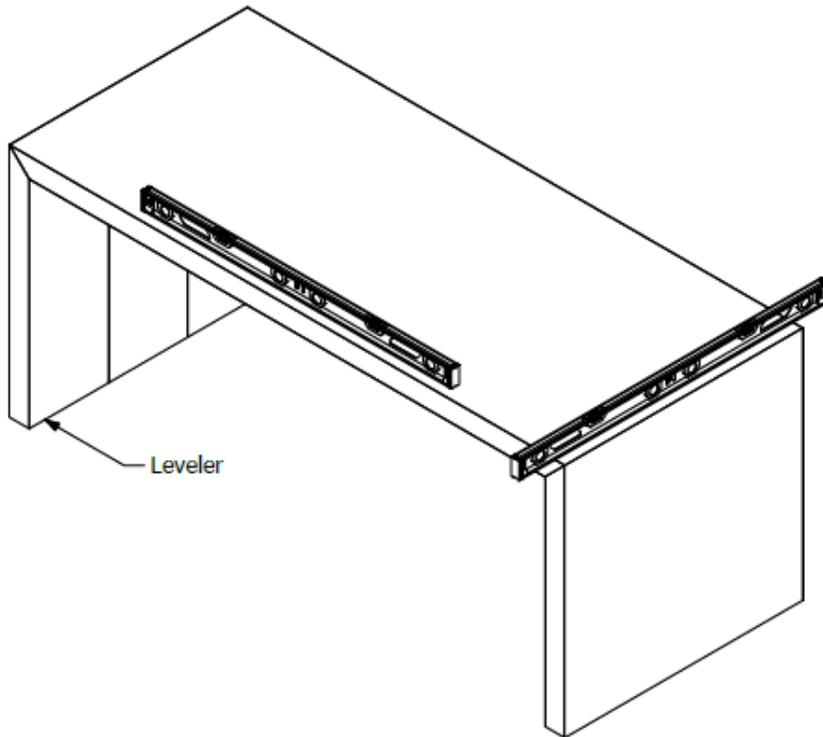

Fig. 01: Table Leveling
1.1.1 Once properly positioned, use a level to measure and adjust the levelers to level the table. [Fig. 01]